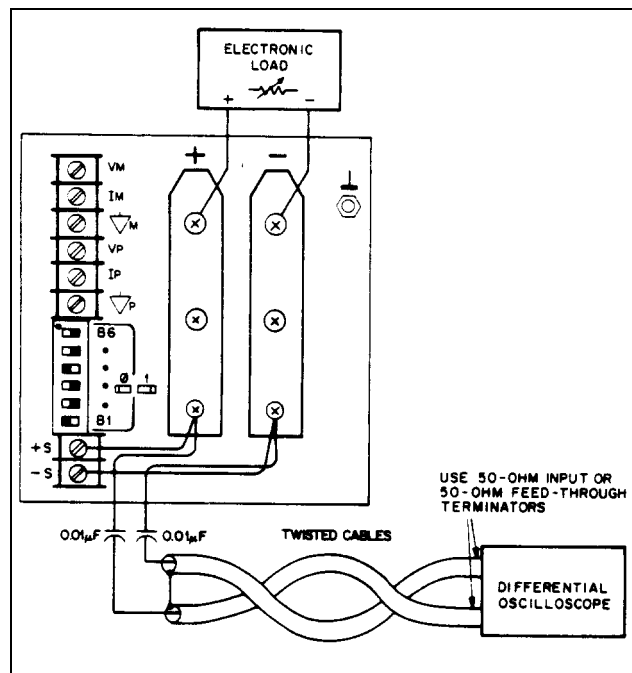

Figure 2-5. Peak-To-Peak Measurement Test Setup, CV PARD Test
Peak Measurement Procedure. Figure 2-5 shows the interconnections of equipment to measure PARD in Vpp. The equipment grounding and power connection instructions of PARD rms test apply to this setup also. Connect the oscilloscope to the + OUT and - OUT terminals through 0.01μF blocking capacitors to protect the oscilloscope's input from the unit's output voltage. To reduce common-mode noise pickup, set up the oscilloscope for a differential, two-channel voltage measurement. To reduce normal-mode noise pickup, use twisted, 1 meter or shorter, 50Ω coaxial cables with shields connected to the oscilloscope case and to each other at the other ends. Proceed as follows:
- a. Connect the test equipment as shown in Figure 2-5. Operate the load in constant resistance mode (Amps/Volt) and set resistance to maximum.